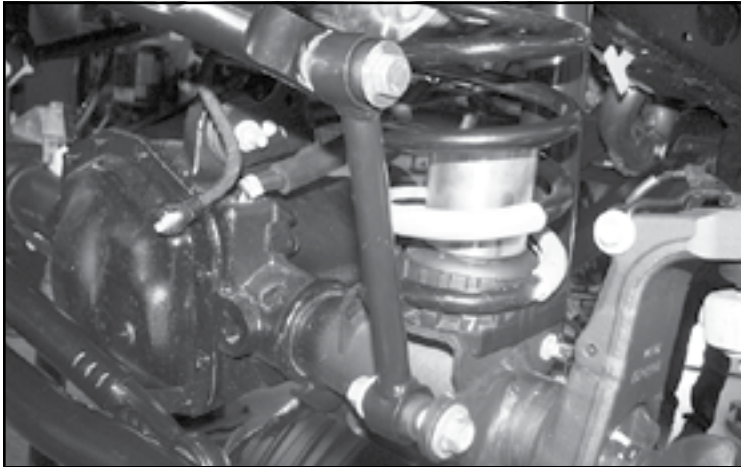

FIGURE 24 - STEP 23
23. Install FT50048 (Bushings) and FT404739 (Sleeves) into FT50026BK (Sway bar links). Then, install the links to the axle mount and sway bar using the supplied M12 x 70mm hardware for the upper location and the factory for the lower. Torque to 65 ft-lbs. **SEE FIGURE 24**